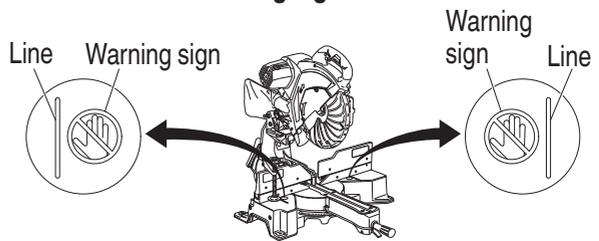

Fig. 10
- Never place your limbs inside of the line next to warning sign while the tool is being operated (see Fig. 10). This may cause hazardous conditions.